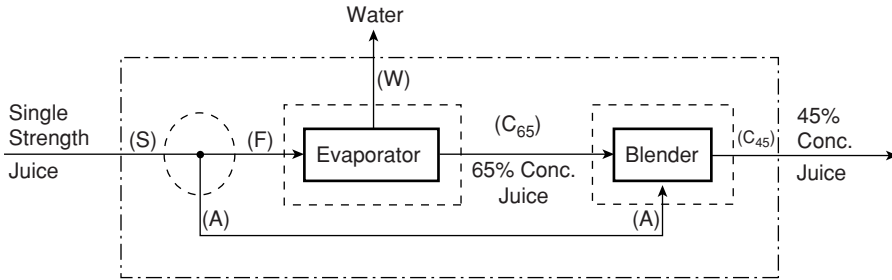

Figure 3.5 Diagram of an orange juice concentrate process involving evaporation and blending of concentrate with freshly squeezed juice.
The problem statement describes a process depicted in Fig. 3.5. Consider a hypothetical proportionator that separates the original juice (S) to that which is fed to the evaporator (F) and that (A) which is used to dilute the 65% concentrate. Also, introduce a blender to indicate that part of the process where